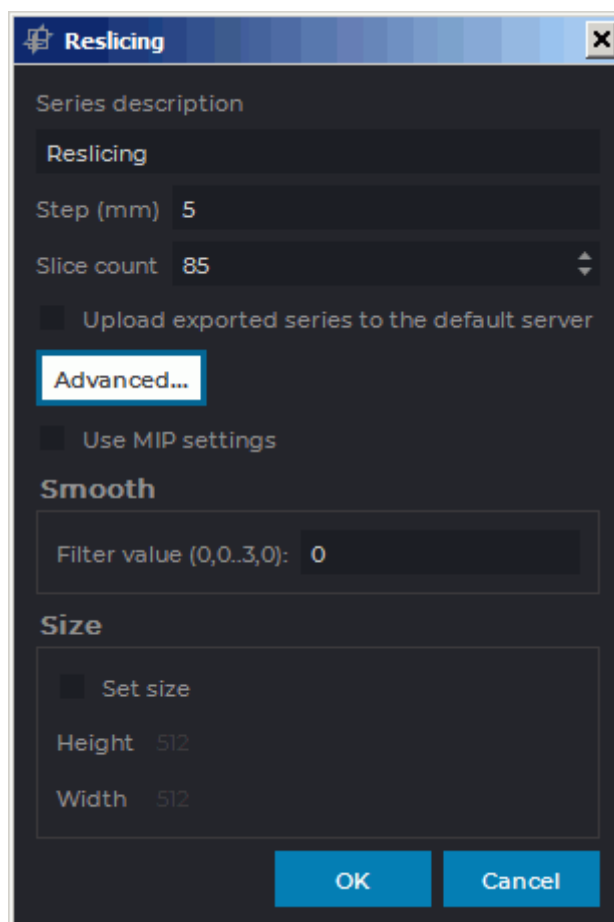

Figure 5.25: Reslice dialog box
3. Enter the series description in the dialog shown in Fig. 5.25.